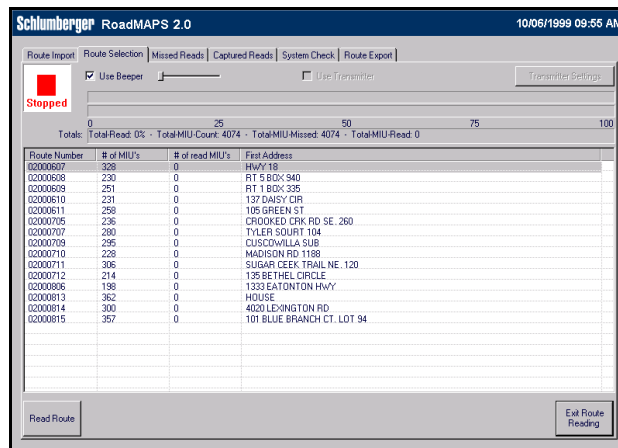

Figure 4.6 Route Selection Screen
- 1 Access the Route Selection screen, shown in Figure 4.6, by pressing the **Route Selection** tab.